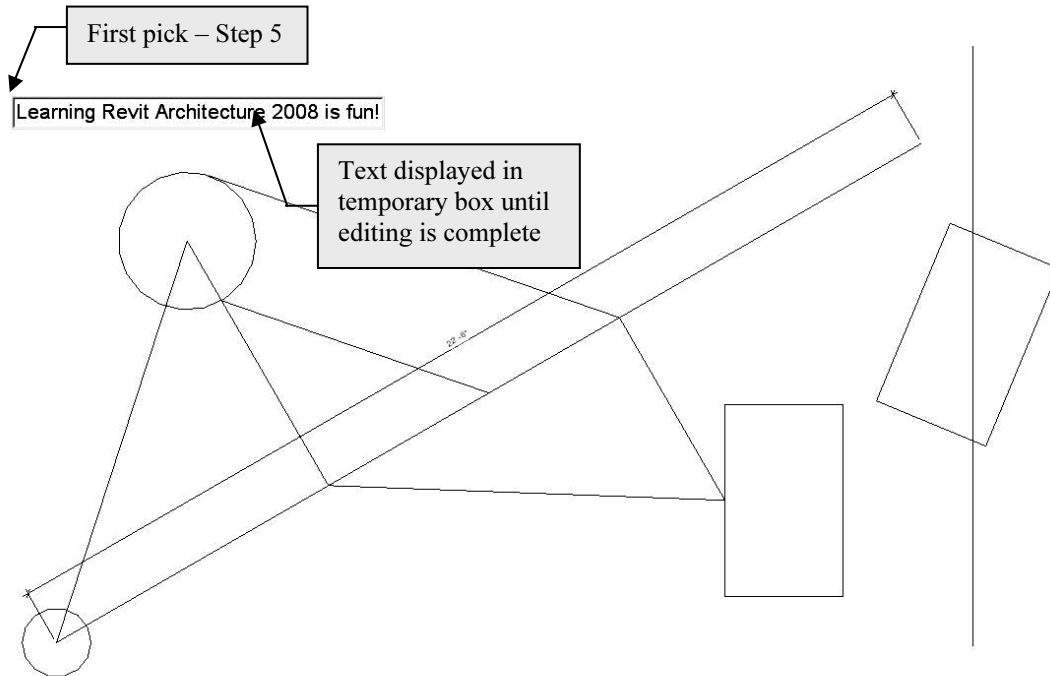

Figure 3-4.3 Text tool; Picking first point and typing text.
5. Pick a point in the upper left portion of the view as shown in Figure 3-4.3.